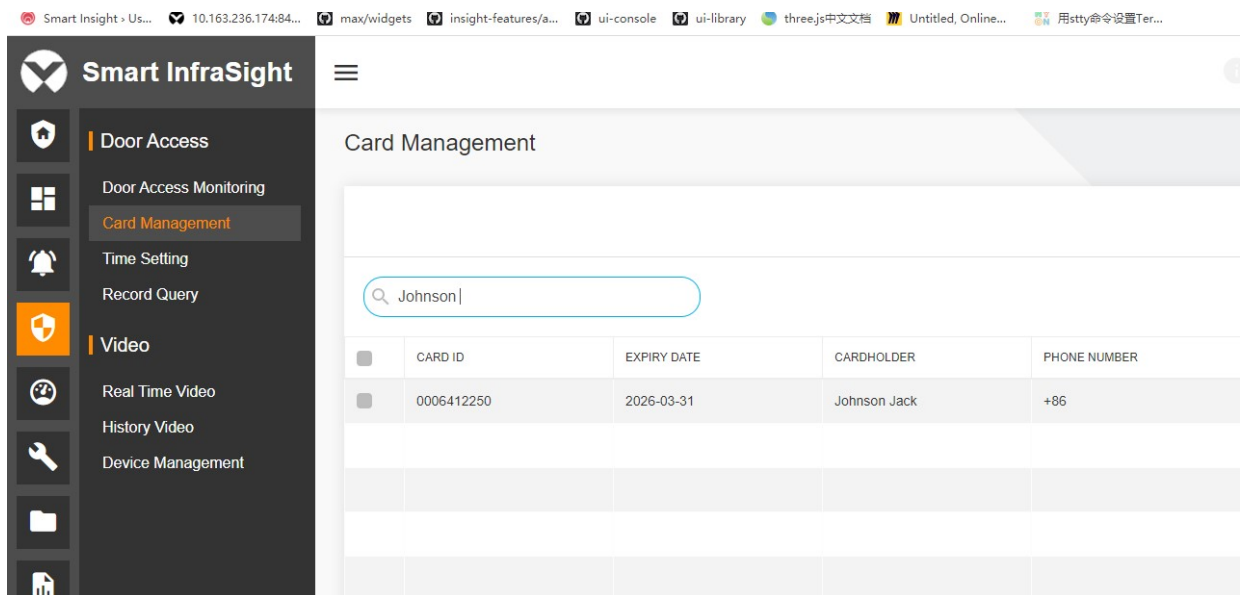

Figure 13-33 List of cards - Search
2. Enter the search content in the search box above the list. The system searches for the cards according to the entered content. The search function supports fuzzy search by card ID, card holder, and department. For example, enter user A. The search result is as shown in Figure 13-33.